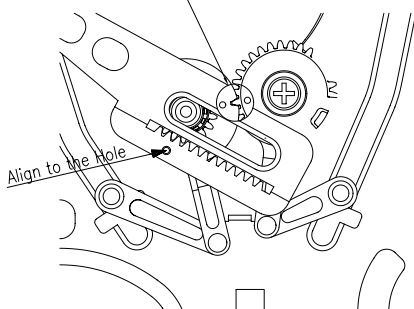

Fig. 3.7 Assembly of the L/R LOADING AS and the LOADING RACK
- Refer to Fig. 3.7 in assembly.